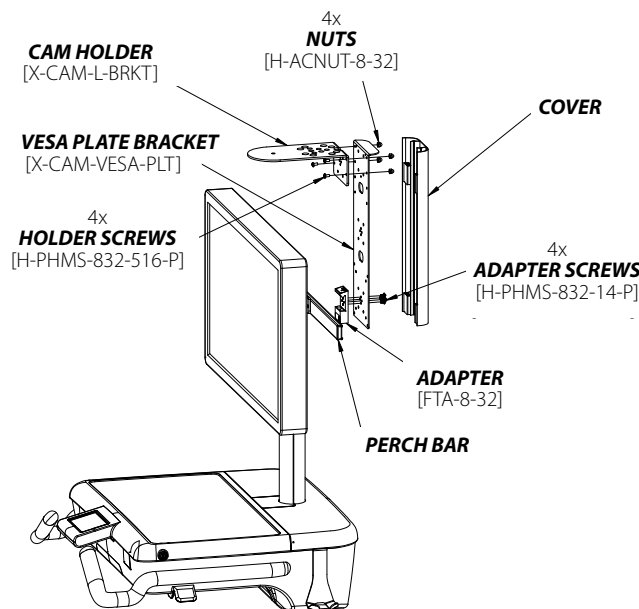

Figure 1
1. Place the *ADAPTER* onto the *VESA PLATE BRACKET* as shown in **Figure 1**. Secure and tighten 4x *ADAPTER SCREWS* through the *VESA PLATE BRACKET* into the *ADAPTER*.
2. Place the *CAM HOLDER* onto the *VESA PLATE BRACKET* as shown in **Figure 1**. Secure and tighten 4x *HOLDER SCREWS* through the *CAM HOLDER* and the *VESA PLATE BRACKET* into 4x *NUTS*.
4. Now place the *COVER* on the back of the *VESA PLATE BRACKET* as shown in **Figure 1**.